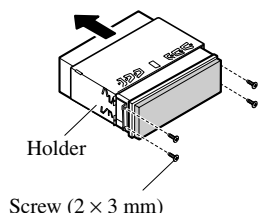

Fig. 14
- **Remove the holder. (Fig. 14)**